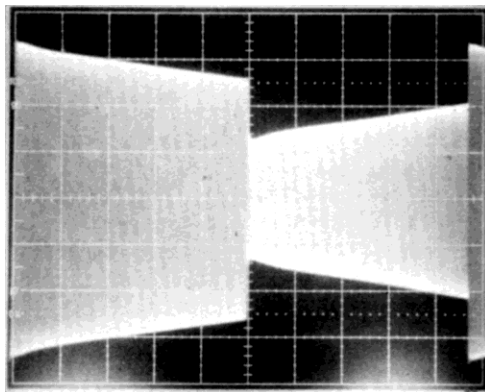
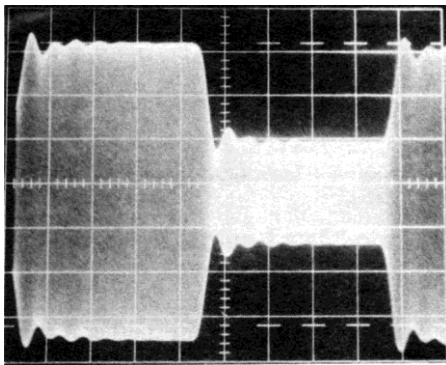
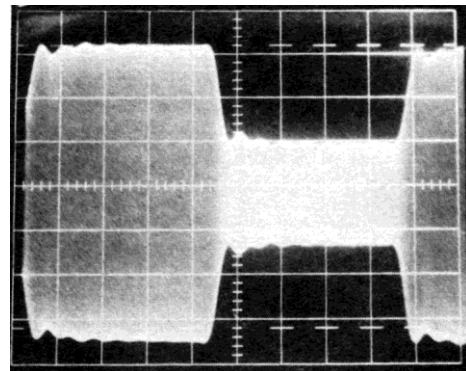

Figure 2-6: Unequalized RF envelope (showing tilt)
Figure 2-8: Unequalized RF envelope (showing ringing)
Figure 2-9: RF envelope showing successful HF equalization
Figure 2-6 on page 2-34 shows tilt and *Figure 2-8* on page 2-36 shows ringing.
Many transmitters (particularly older designs) will produce an RF envelope resembling *Figure 2-6*. If the oscilloscope display looks like this, continue to step (H).
Adjusting the L+R HF DELAY control like this usually reduces the level of the ringing to below the flattop modulation level. Reducing the setting of the L+R HF FREQ control until the ringing is again at the flattop modulation level will unbalance the ringing at the leading and trailing edge of the square wave, and necessitate further adjustment of the L+R HF DELAY control. Alternate between these two interactive controls until the peaks of ringing at both the leading and trailing edges of the square wave are at the flattop modulation level. *Figure 2-8* illustrates a typical waveform before adjustment and *Figure 2-9* shows the result of a successful adjustment. (The waveform produced by your system may look quite different.)